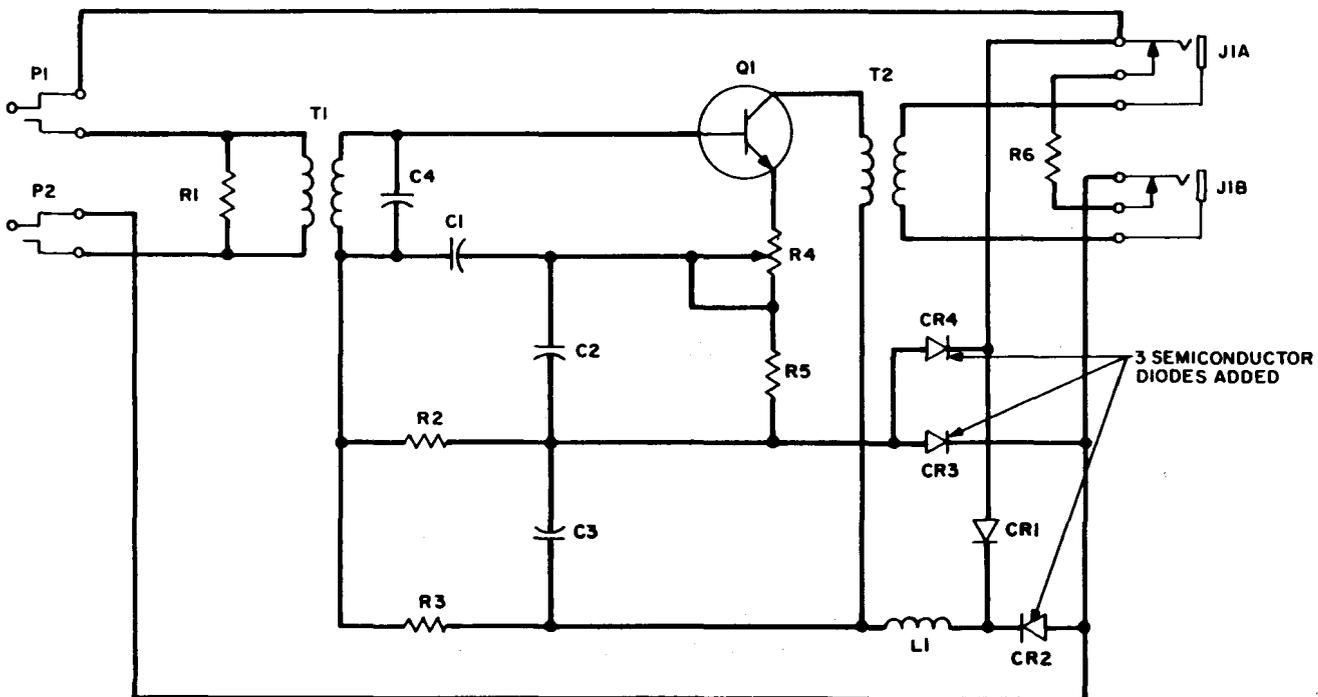

Fig. 5 - Modified Circuit for Nonpolarized Use
3.04 In those cases where it is necessary to use this amplifier under conditions as in 3.03, where talking battery is reversed, during a call, or from call-to-call, provision has been made to modify the amplifier to function under these conditions. A full wave rectifier bridge consisting of three semiconductor diodes is inserted in the power leads as shown in Fig. 5. When amplifiers of this type are required, proper requests for it should be made through the regular routine.